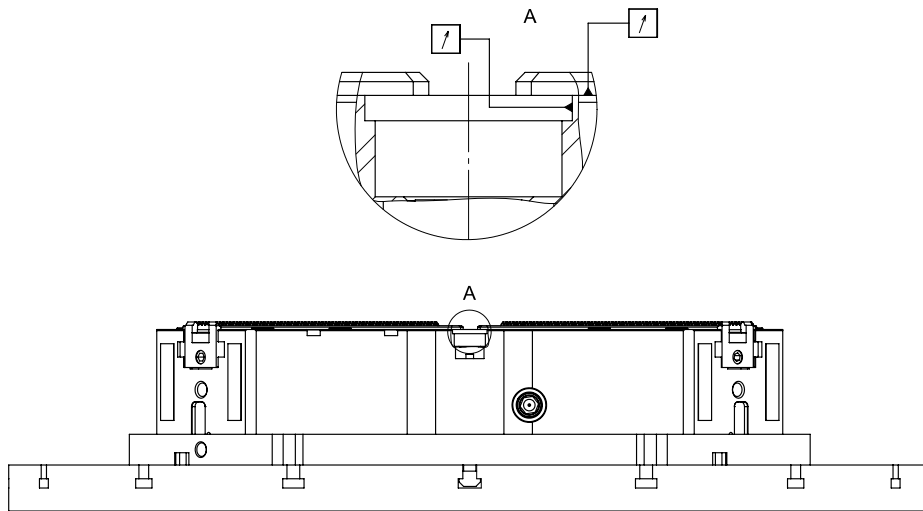

Fig. 3-4: Checking concentricity and axial run-out of the chuck
- Step 12** Once again check the concentricity and the axial run-out of the base plate. Allowed is 0.05 mm. For this remove the threaded insert (3). The measurement is taken from the clearance hole above the thread and from the plane surface around it(see Fig. 3-4).
- Step 13** Cover the boreholes of the outer fastening screws (2) with the caps (1)